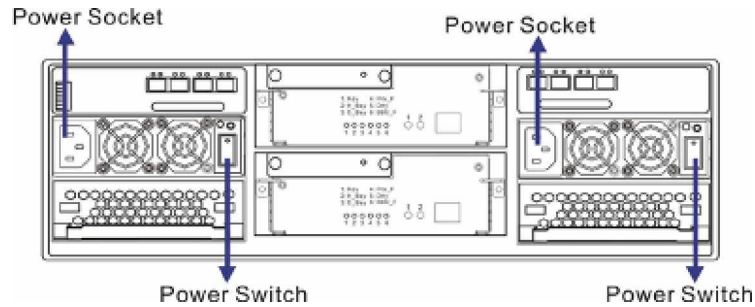

Figure 4-7: Power Sockets and Power Switches
- Turn the two (2) power switches on. (See **Figure 4-7**) Each switch controls a single PSU, therefore make sure that both switches are turned on.